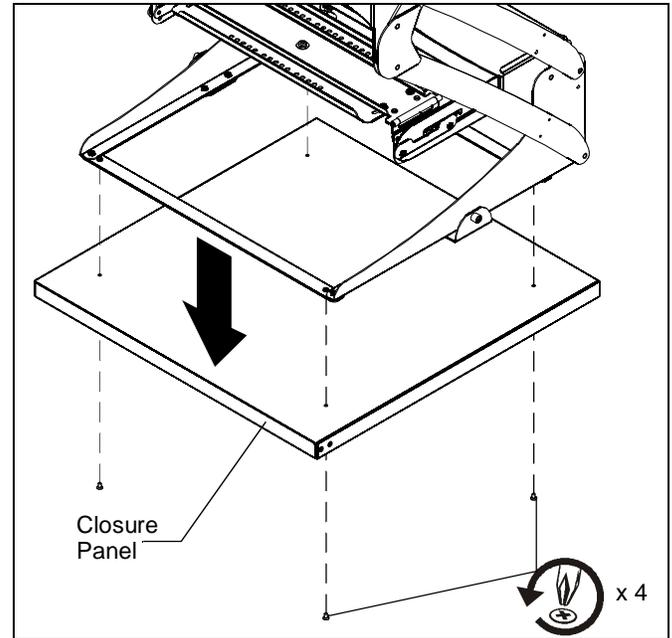

Figure 5
1. Remove the closure panel from bottom of lift by removing the four screws in the closure panel bottom. (See Figure 5)